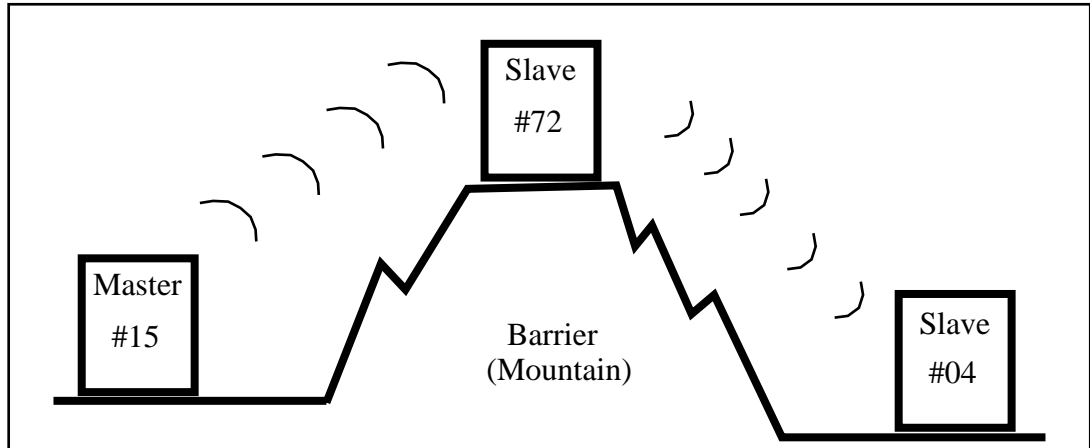

Figure 17-2 RNIM Repeater Example
Figure 17-2 displays an RNIM Master (15) on one side of a mountain, a Slave (04) on the other side of the mountain, and a Slave (72) at the top that can communicate with the other two. If a source on the Master's network (16) wants to send a READ to a PLC (87) on the Slave's network on the other side of the mountain, the route would be: 16, 15, 172, 4, 87.